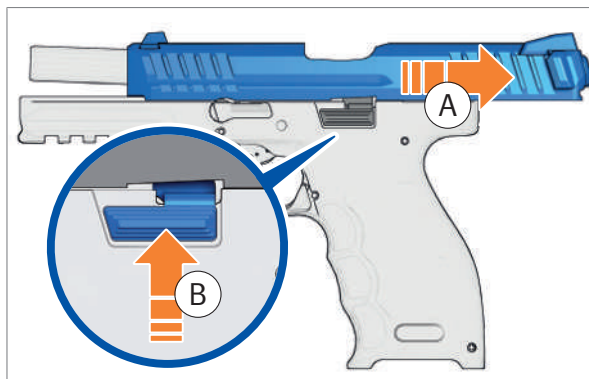

Fig. 23: Lock slide
1. Pull slide all the way back and hold it there (*Fig. 23*).
2. Press slide release upwards to lock slide (*Fig. 23*).